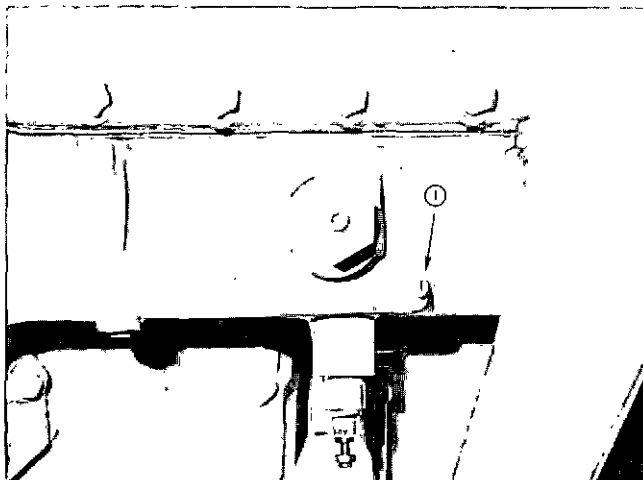

Fig. 2-5, V41818. Glow plug inspection hole
1. If engine gives no indication of starting during first three full strokes of preheater pump, touch-check the intake manifold for heat. If there is no heat, check the electric wiring. If the wiring is all right, remove 1/8" pipe plug (1) from manifold near glow plug and check the flame while a helper performs the preceding Steps 2, 3 and 4. Fig. 2-5.